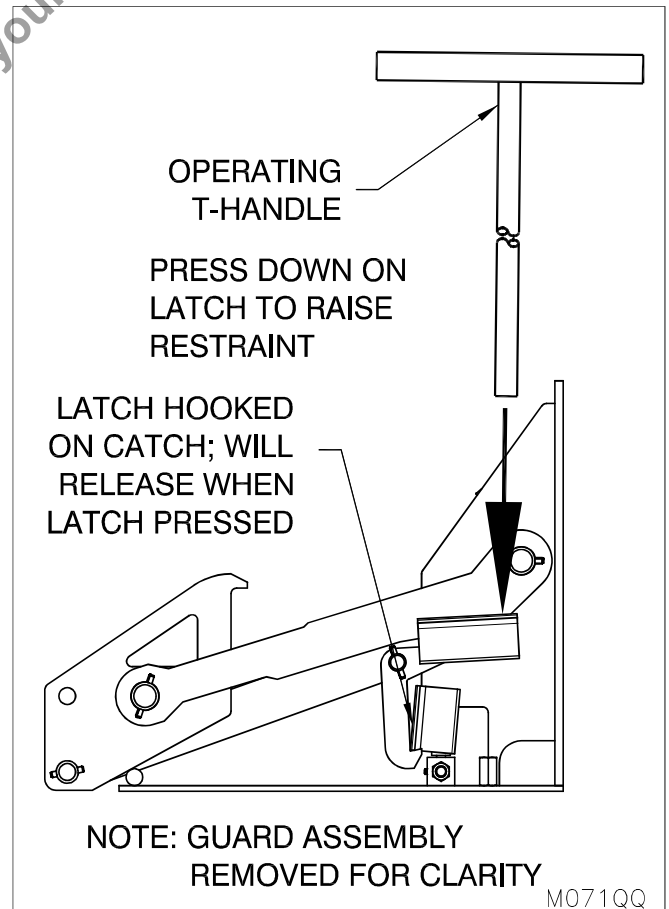

Figure 14: Restraint Latched in Stored Position
1. Ensure the vehicle restraint has been returned to the fully stored position and that the latch securely engages to maintain the vertical lock arm in the stored position (See "Figure 14: Restraint Latched in Stored Position" on page 17)
2. Use the operating "T" handle to push firmly on the top of the latch. This releases the restraint from the stored position and allows the gas spring system to raise the vertical lock arm with an upward bias (see "Figure 14: Restraint Latched in Stored Position" on page 17).
3. Place the operating "T" handle into the locating detent on the push down arm. Push firmly and swiftly for the entire travel on the handle to return the restraint to the fully stored position (see "Figure 19: To Release the Vehicle Restraint" on page 19). The latch must hook under the catch to hold the restraint in the fully stored position (see "Figure 14: Restraint Latched in Stored Position" on page 17).
2. With the truck/trailer in position, centered in front of the loading dock and parked tight against both dock bumpers, use the operating "T" handle to push firmly on the top of the latch. This releases the restraint from the stored position and allows the gas spring system to raise the vertical lock arm with an upward bias (see "Figure 14: Restraint Latched in Stored Position" on page 17).
4. When loading/unloading is complete, place the operating "T" handle into the locating tube on the push down arm. Push firmly on the handle to return the restraint to the fully stored position (see "Figure 19: To Release the Vehicle Restraint" on page 19). The latch must hook under the catch to hold the restraint in the fully stored position (see "Figure 14: Restraint Latched in Stored Position" on page 17). The truck is free to depart and the dock is ready to receive another truck.
- If restraint is engaged, place the operating "T" handle into the locating tube on the push down arm. Push firmly and swiftly for the entire travel on the handle to return the restraint to the fully stored position (see "Figure 29: To Release the Vehicle Restraint" on page 22). The latch must hook under the catch to hold the restraint in the fully stored position (see "Figure 14: Restraint Latched in Stored Position" on page 17). If the trailer was secured by other means, remove them at this time. Immediately turn the selector switch to the position so that the inside red and outside green will be illuminated. The truck is free to depart and the dock is ready to receive another truck.